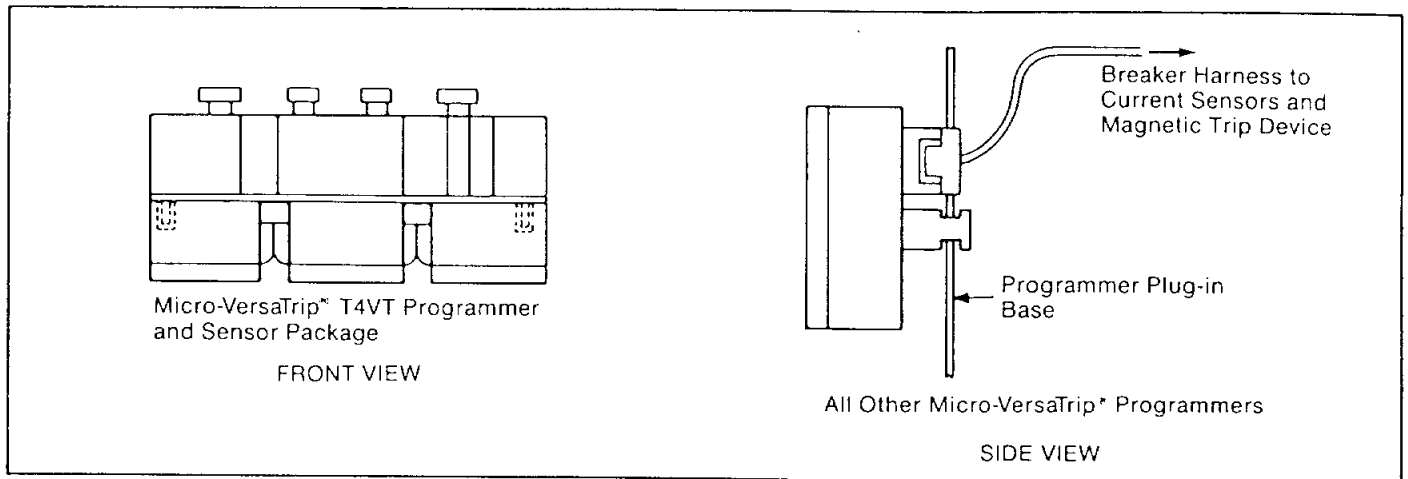

Fig. 3. Normal in-service breaker connection
**CAUTION:** NEVER DISENGAGE THE PROGRAMMER ON A BREAKER THAT IS ENERGIZED AND CARRYING LOAD CURRENT. THIS WILL OPEN-CIRCUIT THE CURRENT SENSORS, ALLOWING DANGEROUS AND DAMAGING VOLTAGES TO DEVELOP. SEE FIG. 3.